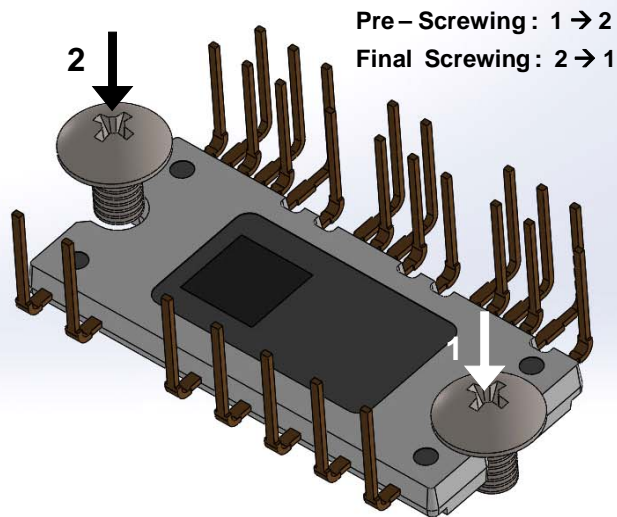

Figure 10. Mounting Screws Torque Order
- 9. Avoid one side tightening stress. Figure 10 shows the recommended torque order for mounting screws. Uneven mounting can cause of package to be damaged.